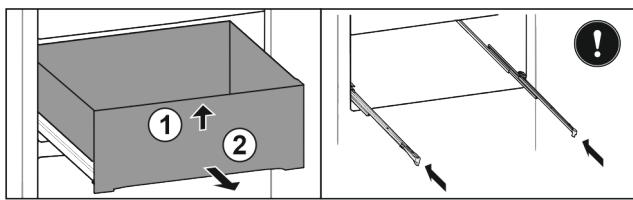

Fig. 37
- Lift up the drawer at the front Fig. 37 (1).
- Take out to the front Fig. 37 (2).